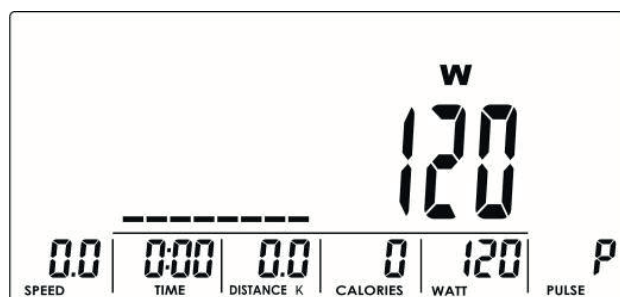

Fig. 15
2. Set the WATT target (default value: 120, fig. 15) with the jog dial and confirm with MODE.